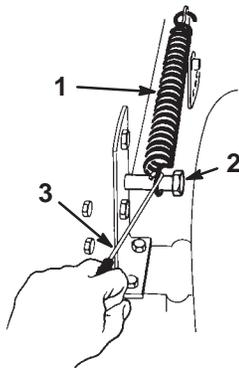

Figure 37
8. Remove the height-of-cut lift assist spring from the retaining bolt (Fig. 37), using the spring tool provided with the tractor. The spring is between the frame and the right rear wheel.
- Move the height-of-cut lever into the D notch. Hook the lift assist spring onto the retaining bolt for storage (Fig. 37).